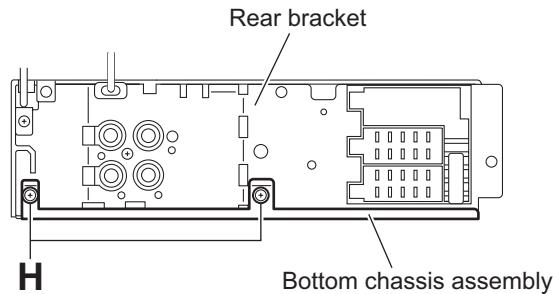

Fig.10
(See Figs.10 and 11)
- (1) From the rear side of the bottom chassis assembly, remove the two screws **H** attaching the rear bracket to the bottom chassis assembly. (See Fig.10.)